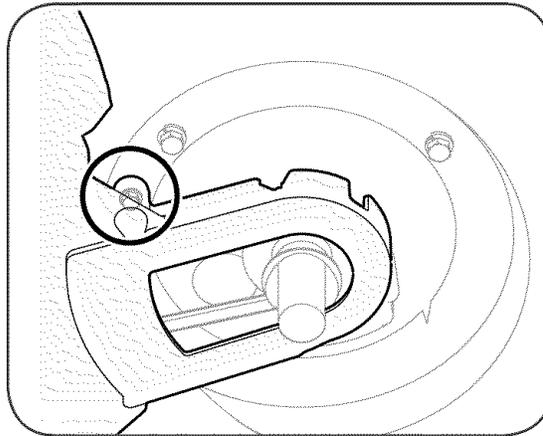

Figure 5-4: Remove screw holding baffle to deck.
5. Loosen self-tapping screw that secures deck baffle to the deck, Figure 5-4.